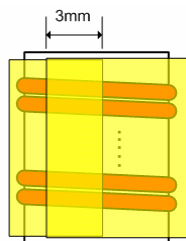

Figure 29. Overlapped Section of Insulation Taping
10. Overlapped section length between the start and the end of insulation tape is about 3mm – see Figure 29.